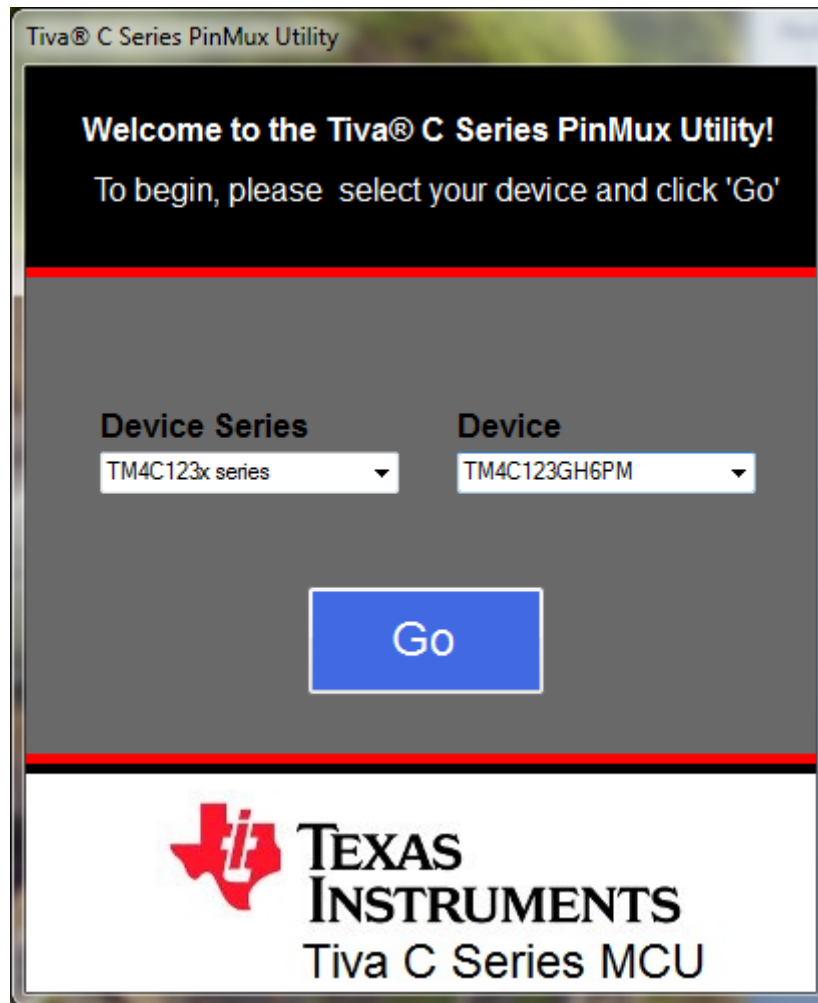

Figure 2
3. Launch the PinMux software by double clicking the **Tiva C Series PinMux** icon on your desktop. You will see the user interface which allows you to select the **Device Series** and **Device** as shown in Figure 2. Select "TM4C123x series" and "TM4C123GH6PM" from the menus respectively and then click **Go**.